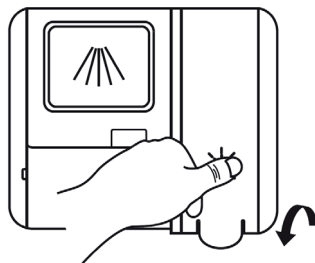

Fig. 5
4. After filling close the rinse aid dispenser cover and tighten it (Fig.. 5)..